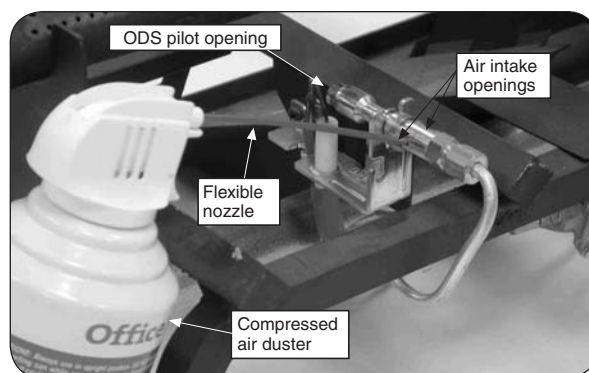

Fig. 26-2
2. Clean out both air intake openings (see Fig. 26-2) by lightly brushing around the openings while vacuuming.
4. If the ODS pilot flame does not burn as indicated in the instructions, extinguish the ODS pilot by turning the valve to the full **OFF** position. Using a compressed air duster, insert the flexible nozzle through either air intake openings, ensuring that the nozzle is pointed toward the ODS pilot opening (see Fig. 26-2). Blow air through both air intake openings to clear out any debris that may be in the system.